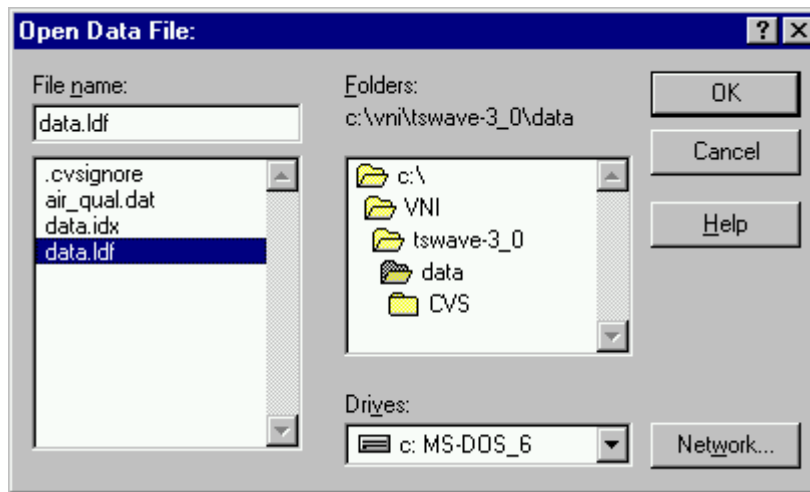

Figure 1-2 Open Date File dialog box
Step 2 Select **File=>Open**. The Open Data File dialog box appears as shown in Figure 1-2.